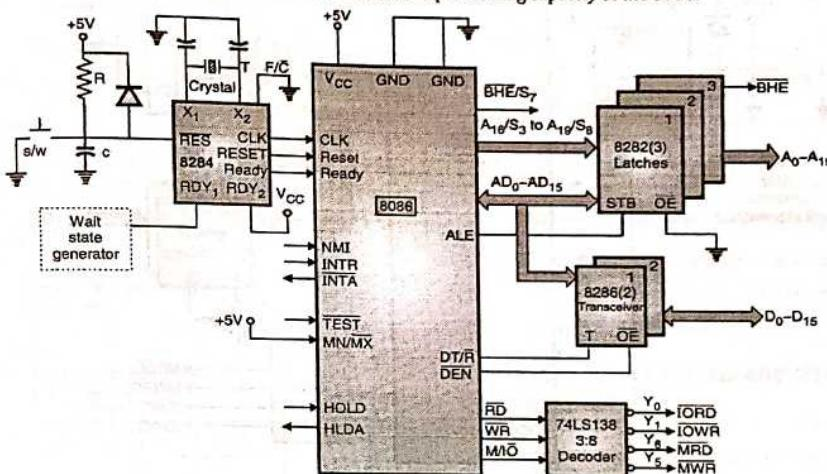

Fig. 3.9.1 : Block diagram of minimum system in minimum mode
- The minimum mode system block diagram is as shown in Fig. 3.9.1.
- As shown in Fig. 3.9.1, the system in the minimum mode contains the support chips such as 8282, 8284 and if necessary, the 8286 data buffers.
- As shown in Fig. 3.9.1 the signals $AD_0 - AD_{15}$, $A_{16} / S_3 - A_{19} / S_6$ and BHE / S_7 are multiplexed. These signals are demultiplexed by external latches and the ALE signal. The latches are generally buffered output D-type flipflops like 8282. These latches provide increased output drive capacity.